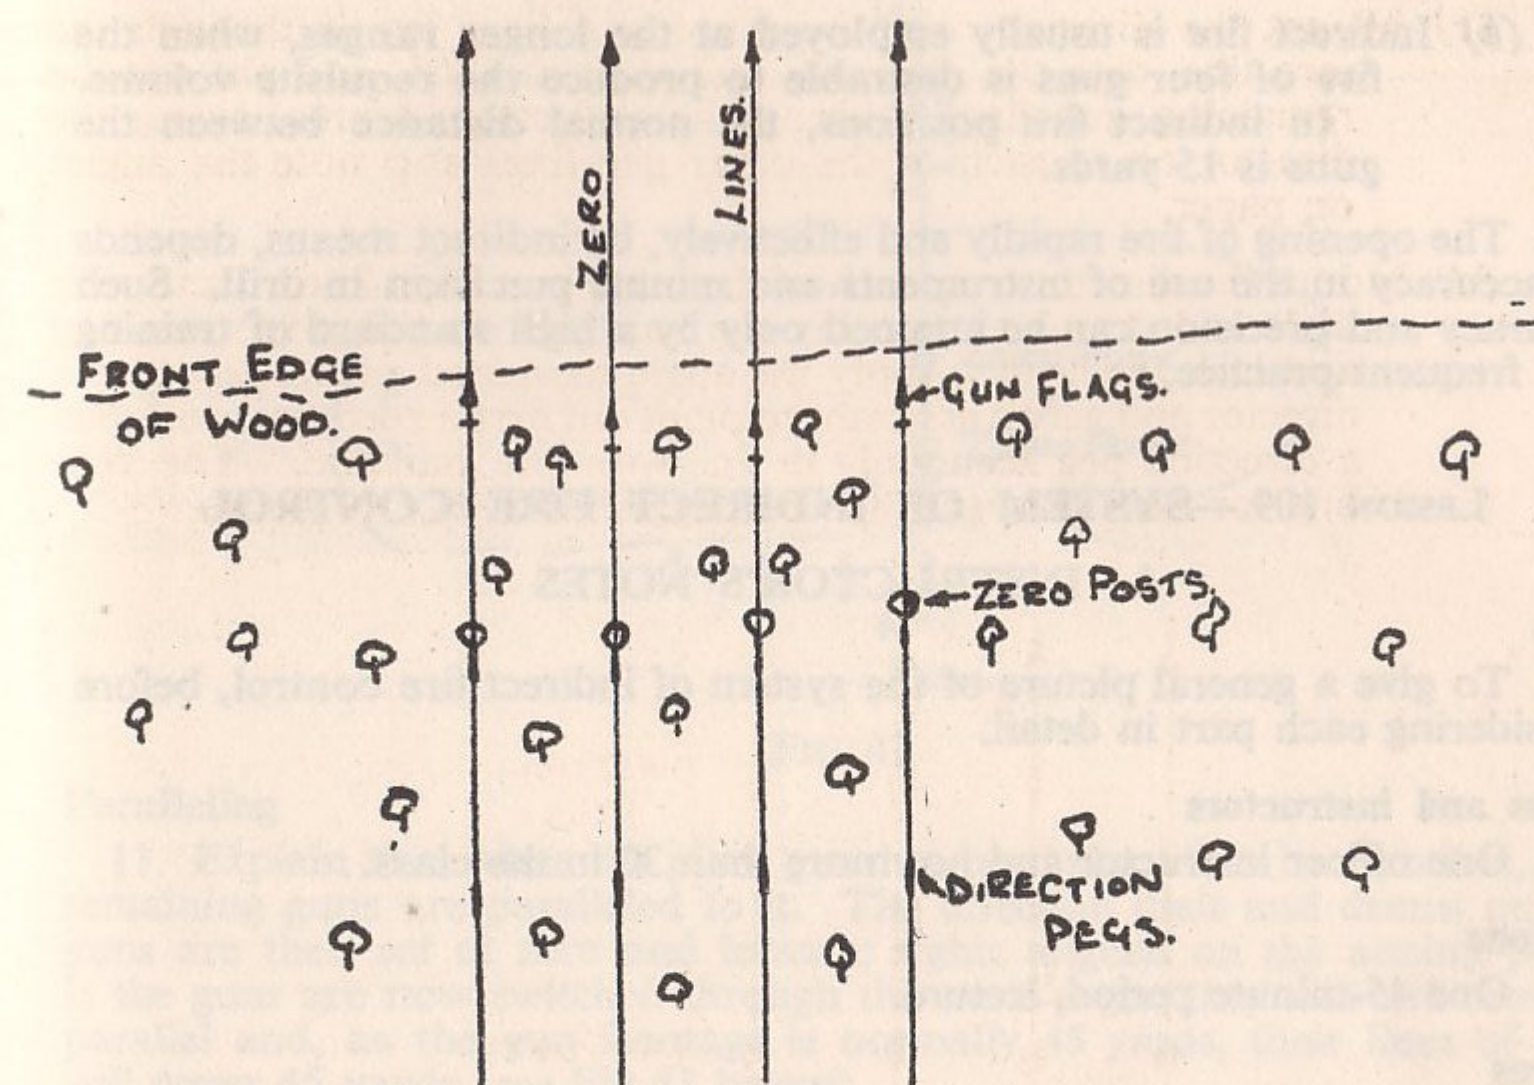

FIG 41
10. Sometimes a position may be selected on the front edge of cover which is in view of the enemy. To avoid exposing personnel in front of the cover, it will be necessary to place the direction pegs and zero posts in rear of gun flags (see Fig 41).